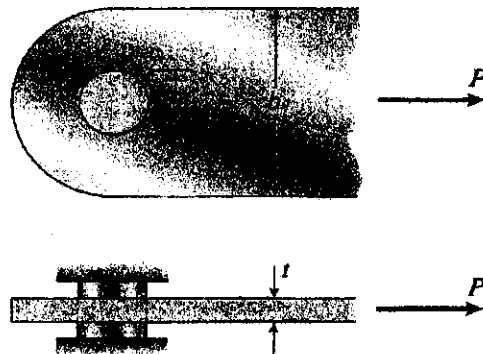

Figure 1
1. (25%) A bar of rectangular cross section is subjected to an axial load P (Figure 1). The bar has width $b = 60$ mm and thickness $t = 10$ mm. A hole of diameter d is drilled through the bar to provide for a pin support. The allowable *tensile* stress in the bar is 140 MPa, and the allowable *shear* stress in the pin is 80 MPa. The allowable *bearing* stress between the pin and the bar is 200 MPa.